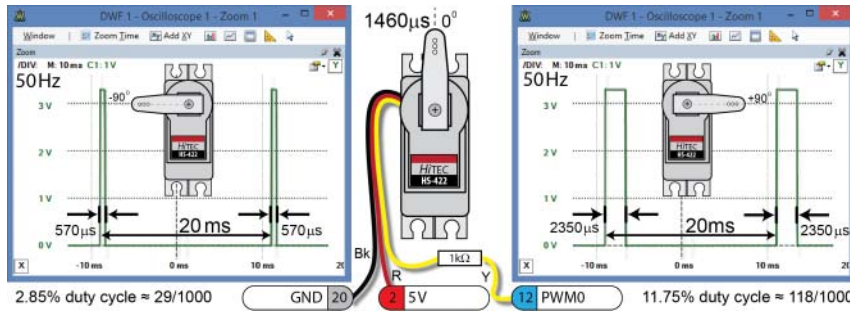

Figure 6-21: Controlling a servo motor using PWM, positioning from -90° to $+90^\circ$ using different pulse widths
Figure 6-21 illustrates the connections and timings for the servo motor that enables it to rotate from -90° using a pulse of 570 μ s to $+90^\circ$ using a pulse of 2350 μ s. These values and the center point of 1460 μ s were manually calibrated, and will vary for each individual servo motor.
And to control the servo motor in Figure 6-21 using the calculations therein to rotate the servo arm to -90° (29) and then to $+90^\circ$ (118), do the following: